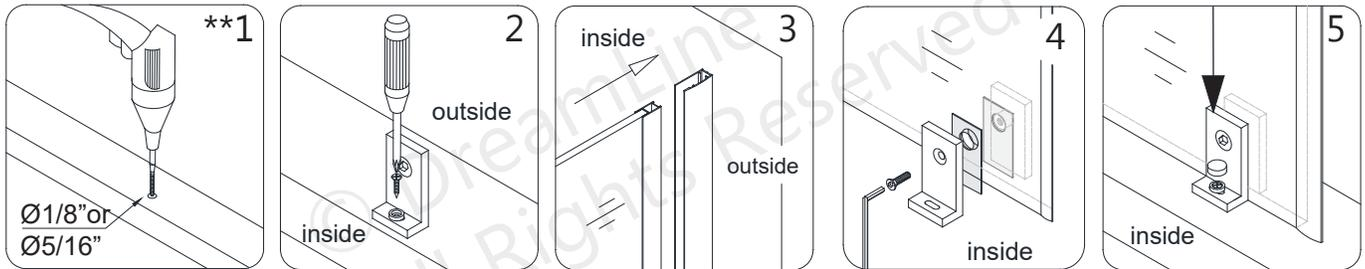
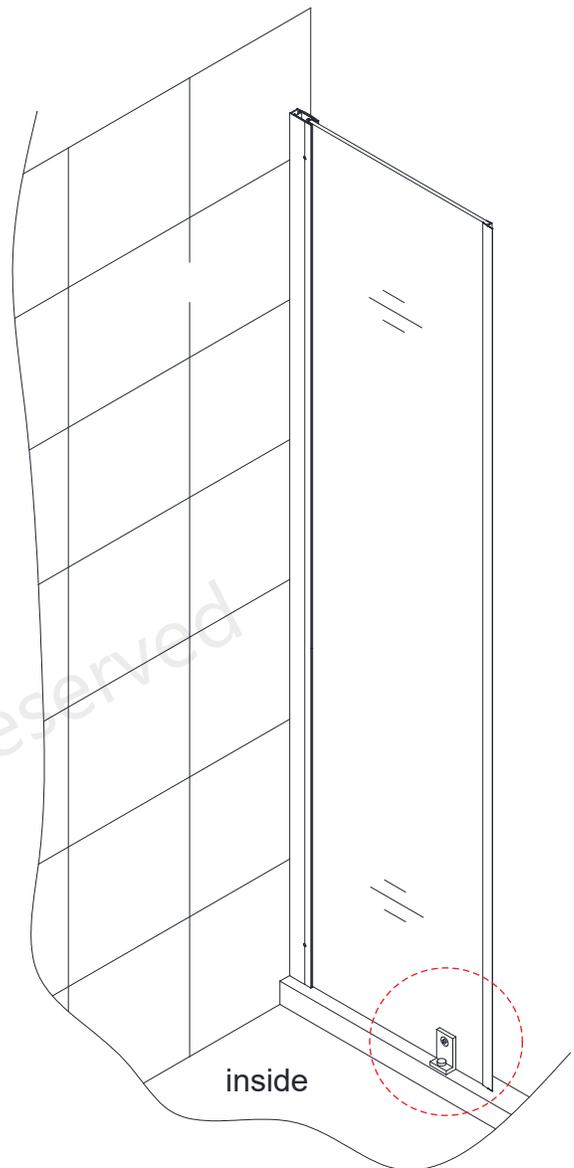

Fig 7a
Fig 7b
** Use an **Ø1/8"** drill bit for installation into an acrylic base OR use a **Ø5/16"** drill bit and an anchor for installation into a tile threshold. Use the **Pan Head Screw ST4.2x35 (#16)** along with a raised white washer to attach the **Bottom Bracket (#18)** to the threshold and snap on the **Decorative Screw Cover (#17)**. (**Fig 7a and Fig 7b**)